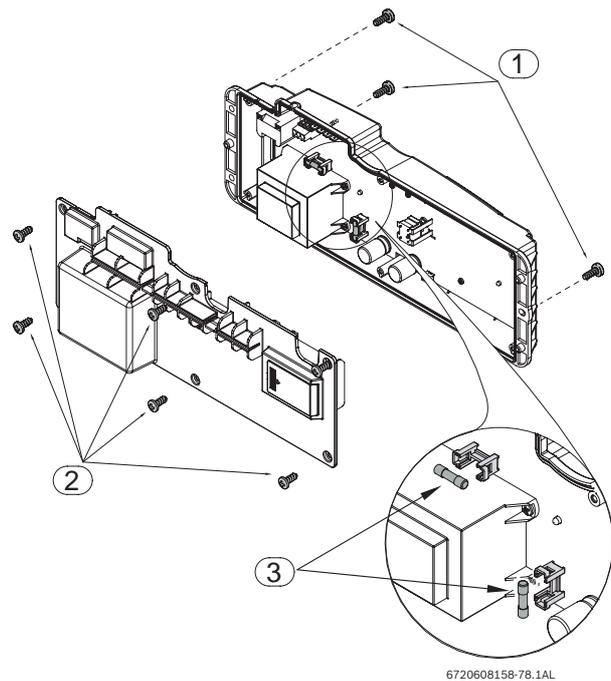

Fig. 40 Fuses position
- ▶ Remove the six screws from the back cover of the control unit, see Fig. 40, pos. 2.
- ▶ Check the fuses in the printed circuit board, see Fig. 40, pos. 3.